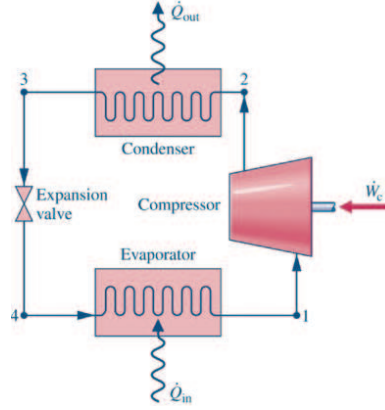

Figure 1: Schematic for refrigeration problem.
2. (40) A refrigeration cycle using R-134a as the working fluid consists of a compressor, a condenser, an expansion valve, and an evaporator. See Fig. 1. R134a at $P_2 = 1.000\text{ MPa}$ and $T_2 = 50^\circ\text{C}$ enters the condenser. It leaves the condenser as a saturated liquid at the same pressure. The pressure in the evaporator is 133.7 kPa . The processes in the condenser and the evaporator are isobaric. The fluid enters the adiabatic compressor as a saturated vapor.